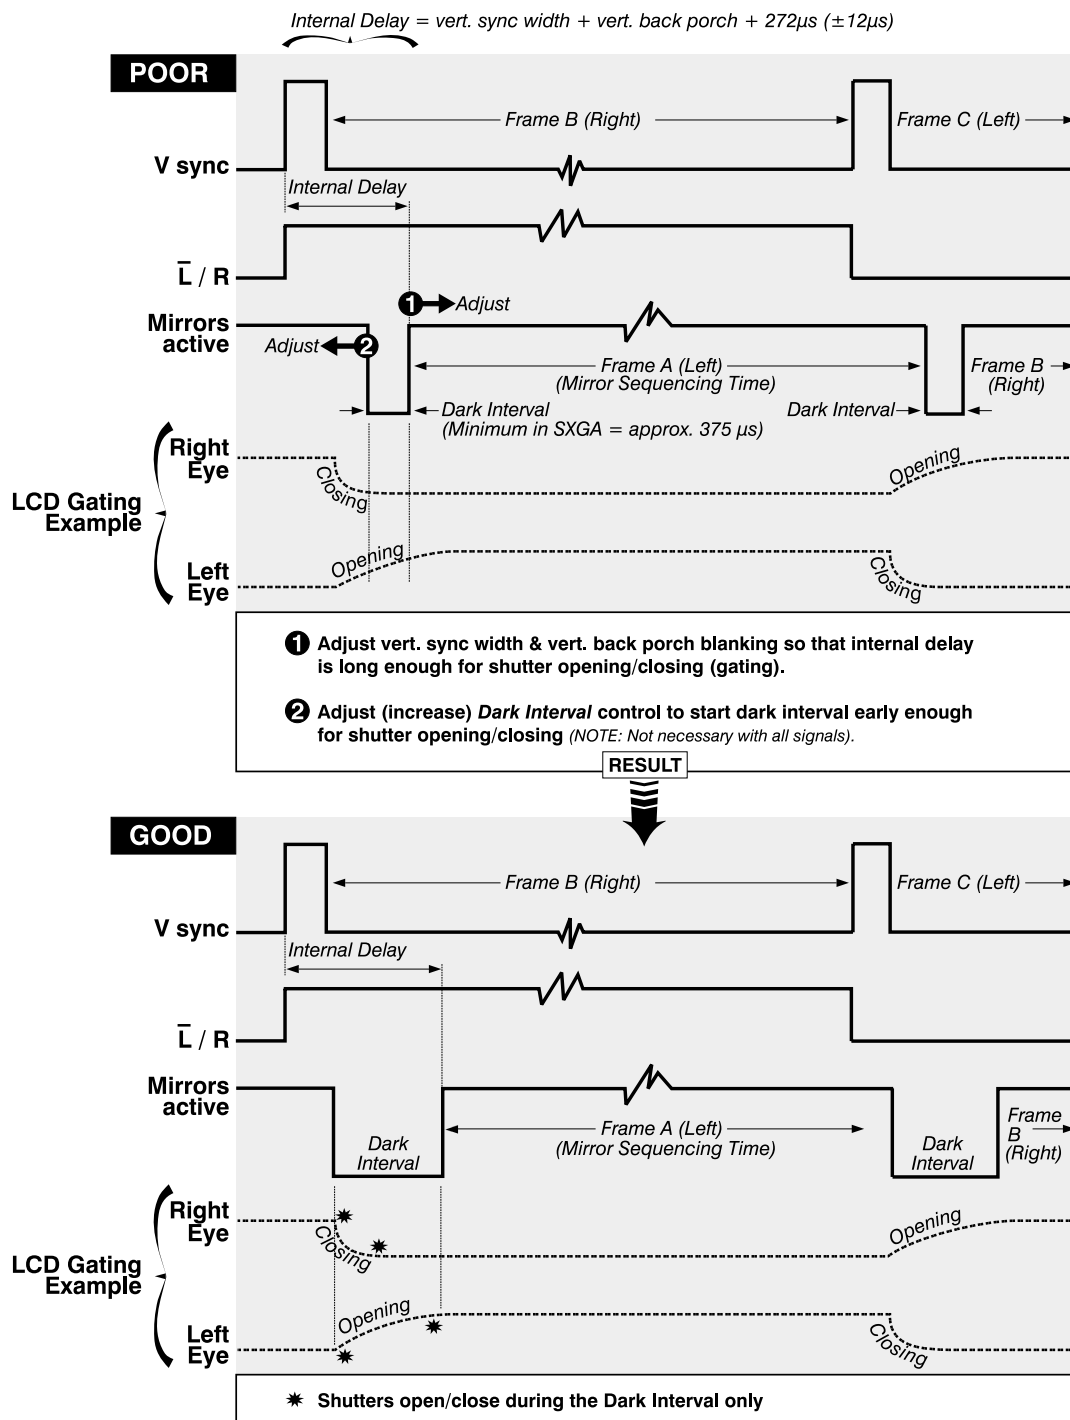

Figure 3.34. Customizing the Input Signal
- 1) **Vertical sync width** and/or **vertical back porch blanking** of your input source. Choose the vertical sync width and/or vertical back porch timing to determine when the next field begins displaying relative to the vertical sync signal. The degree of timing adjustment needed depends on the specific signal at hand as well as the performance of your glasses. An example of improvements to poor synchronization is shown in Figure 3.34. After adjustment, shutter changes occur during the dark interval between frames.
NOTE: The example in Figure 3.34 assumes that the first active line of your signal is displayed on the first line of the Mirage display panel rather than being repositioned higher or lower using the projector's V-Position control.